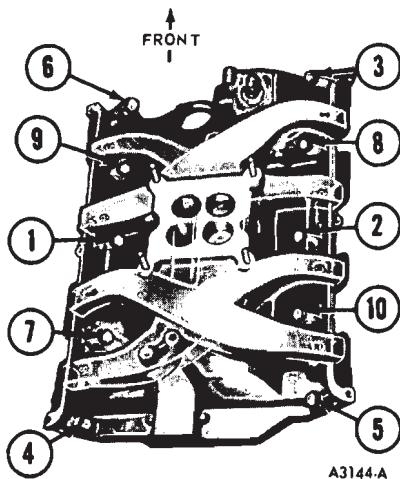

FIG. 11—Intake Manifold Torque Sequence
9. Install the distributor (as detailed in Group 22) to properly locate the manifold on the cylinder block. Install the manifold bolts. Torque the intake manifold bolts in two steps (Fig. 11).